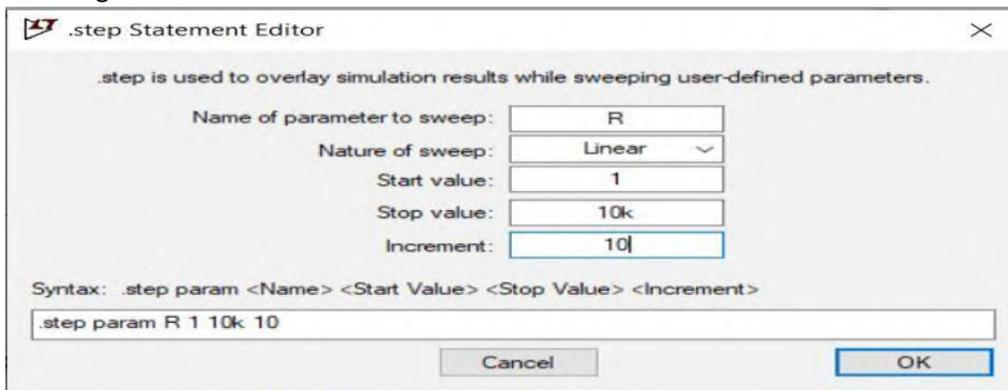

Figure: 5
- 8) The .step Statement Editor in figure 5 appears and set the parameters as shown in figure 5 to change the value of R from 1 to 10K with increment of 10 ohm.